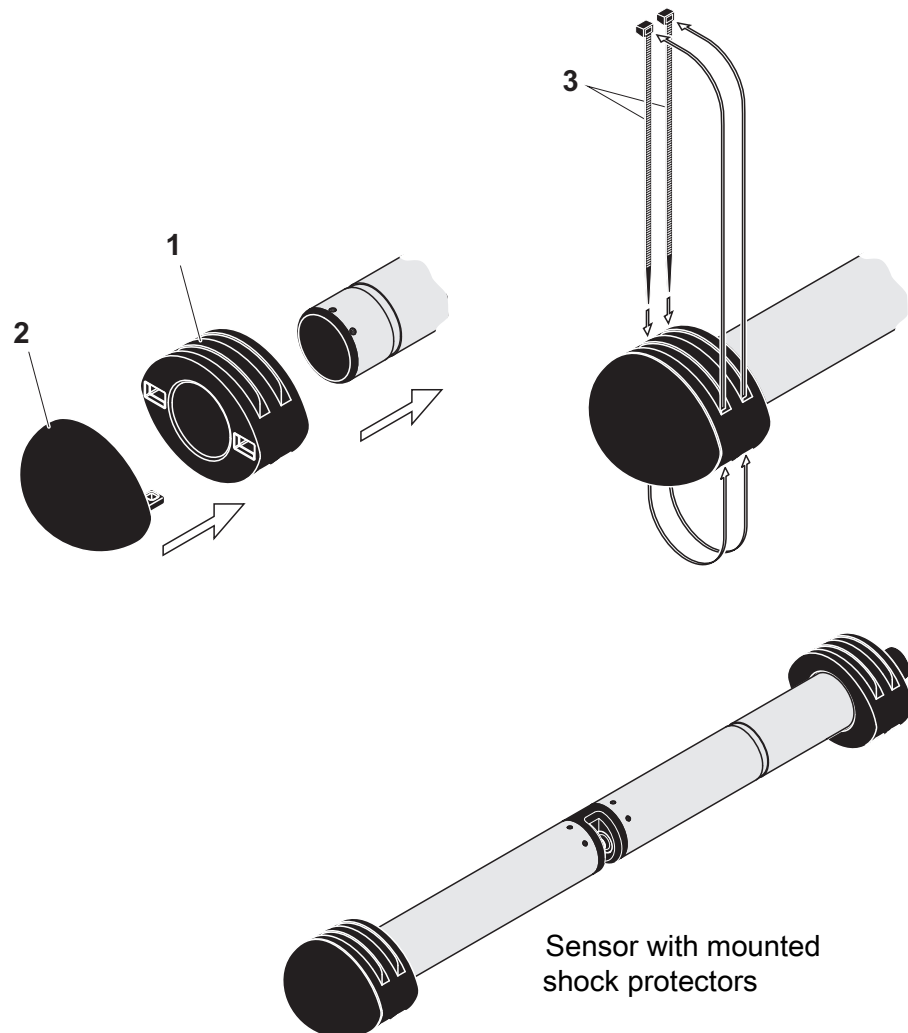

Fig. 3-4 Mounting the shock protectors
1. Plug the cap (pos. 2 in Fig. 3-4) on one of the two rings (pos. 1).
2. Put the assembled unit on the sensor end and fix it with 2 cable ties (pos. 3) as shown in Fig. 3-4.